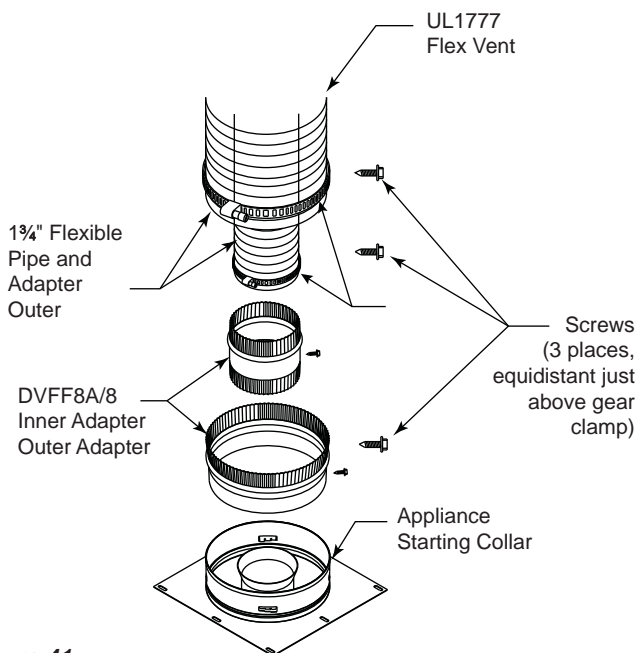

Figure 41 - Typical 5" x 8" Appliance Connection
2. The flex adapter starter kit (DVFF8A/8) is used to attach flex venting to the appliance starting collar. It includes 5" inner and 8" outer adapter rings. *Figure 41*
A. Installing the inner flex adapter and pipe. *Figure 41*
B. Installing the outer flex pipe. *Figure 41*